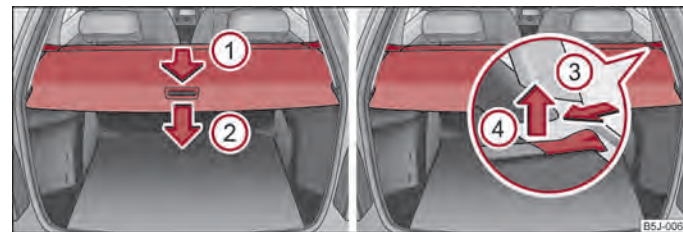

Fig. 49 Luggage compartment: foldable luggage compartment cover/removing foldable luggage compartment cover
- Pull the foldable luggage compartment cover in direction of arrow ① as far as the stop into the secured position ⇒ fig. 49.
- Have the foldable luggage compartment cover removed to transport bulky goods by pressing on the side of the cross rod in direction of arrow ③ and taking it out by moving it in direction of arrow ④ ⇒ fig. 49.